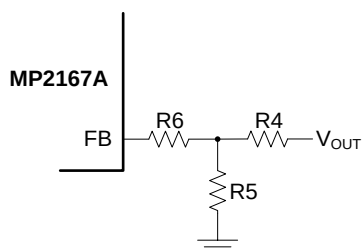

Figure 3: Feedback Network
The external resistor divider connected to FB sets V_{OUT} (see Figure 3). The feedback resistor (R_4) must account for both stability and dynamic response, so it cannot be too large or too small. R_4 is estimated to be 100k Ω . R_5 can be estimated with (2):
It is highly recommended to use a T-type feedback network (see Figure 3).